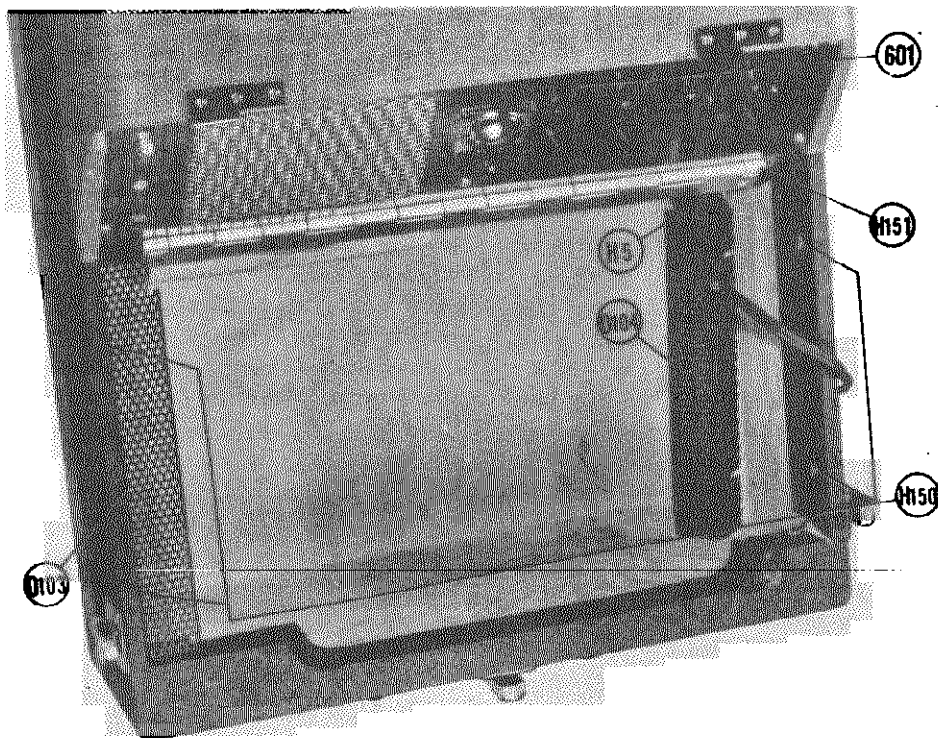

Fig. 46—Disassembly Step No. 5 and 6
5. Remove the five screws (H-150) holding the ventilating grilles (O-103) and (O-104) to the case. (See Fig. 46). Note: The two screws nearest the control panel must be completely removed to facilitate the removal of the amplifier.
6. Remove the four control knobs (601) from the amplifier control panel. (See Fig. 46).